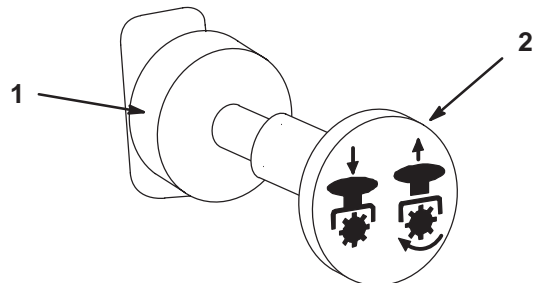

Figure 17
- Pull out on the power take off (PTO) switch to engage (Fig. 17).
1. To disengage push the PTO switch to the off position (Fig. 17).